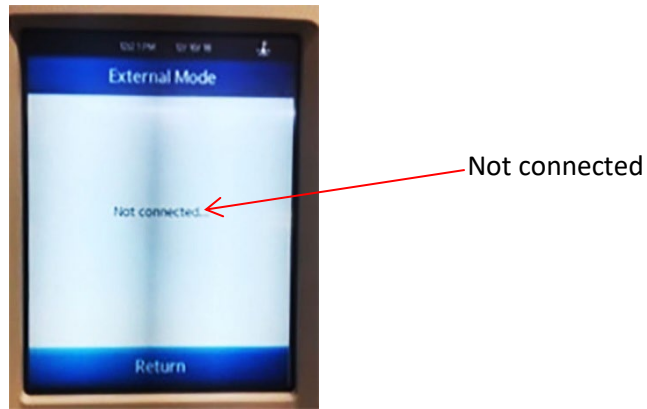

Figure 29: Not Connected Display
- Once **External Mode** is pressed, the screen displays **Not Connected**. Refer to Figure 29.